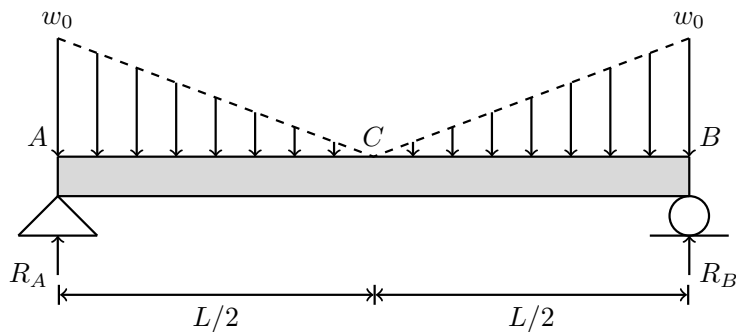

Figure 7
4. Consider a simply supported beam of length L subjected to applied load as shown in Fig. 7. Calculate the reaction forces, shear force, and bending moment at any point along the beam.